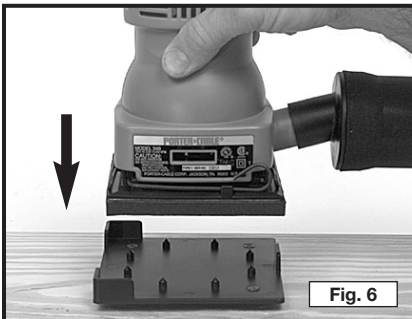
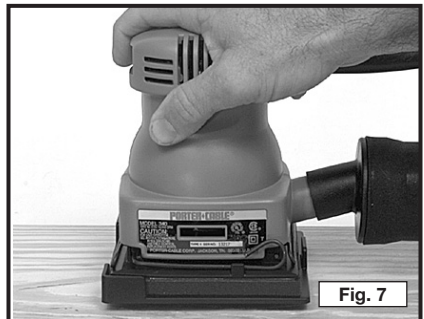

Fig. 6
Fig. 7
2. Position the sander to the punch (see Fig. 6), aligning the sander pad with the two corner guides on the punch. Push sander onto the punch until seated (see Fig. 7).